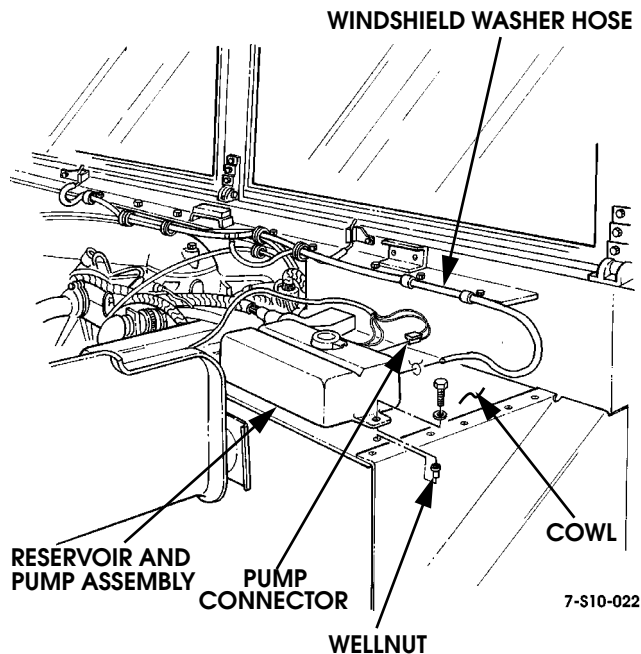

Figure 10-115: Windshield Washer Fluid Reservoir and Pump Replacement
2. Disconnect pump connector from reservoir and pump assembly (Figure 10-115).
1. Secure reservoir and pump assembly to cowl with two lockwashers and bolts. Tighten bolts to 8 lb-ft (11 N•m) (Figure 10-115).